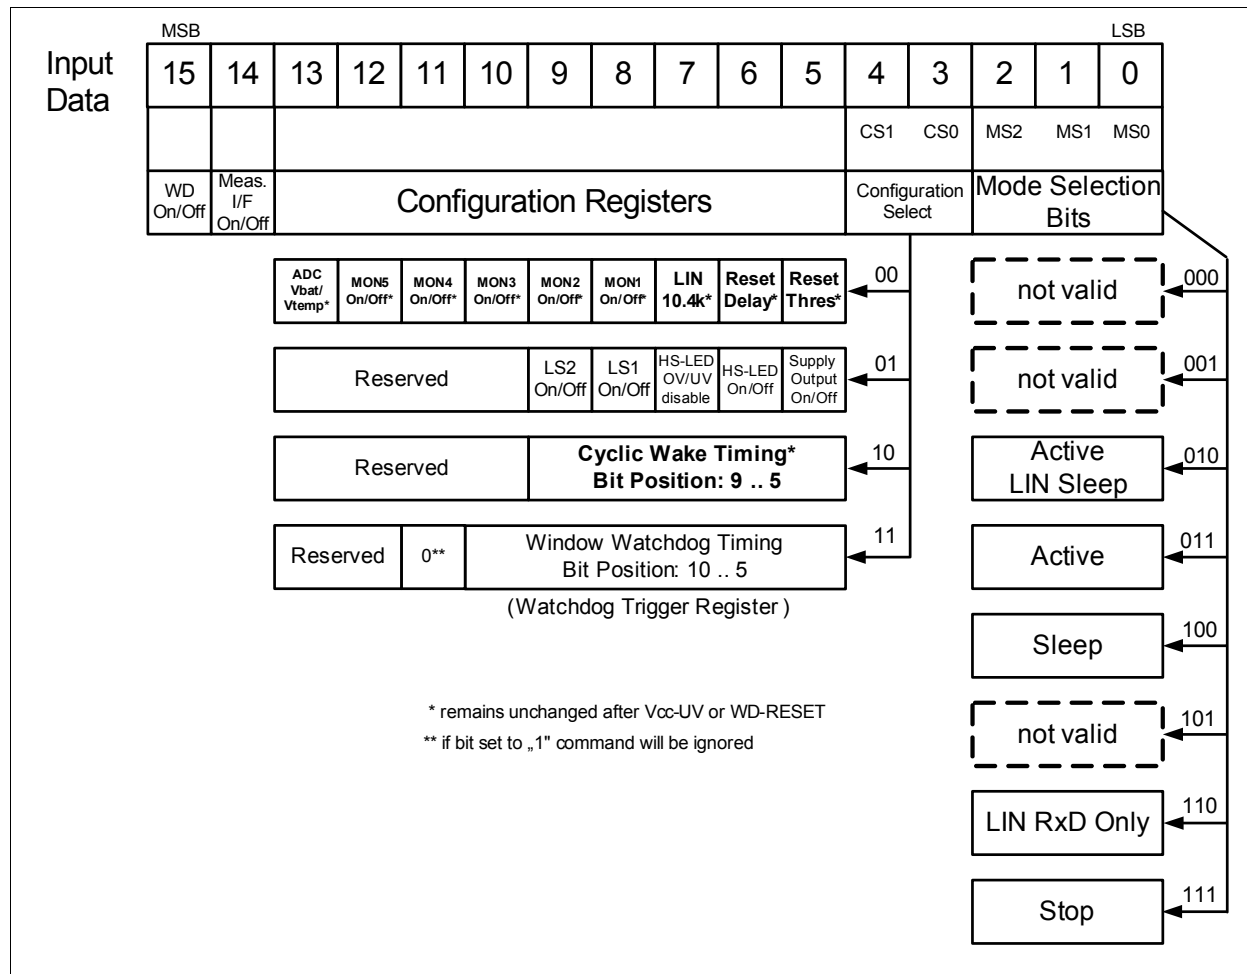

Figure 10 16-Bit SPI Input Data / Control Word
*Note: The window watchdog is automatically disabled once the LDO output current goes below a specified "watchdog current threshold", unless the SPI setting "WD On/Off" prevents this (see Figure 10, Watchdog disable current threshold, Table 14 and "Window Watchdog Reset Period Settings" on Page 23).*
*Note: The window watchdog is automatically disabled once the LDO output current goes below a specified “watchdog current threshold”, unless the SPI setting “WD On/Off” prevents this (see Figure 10).*